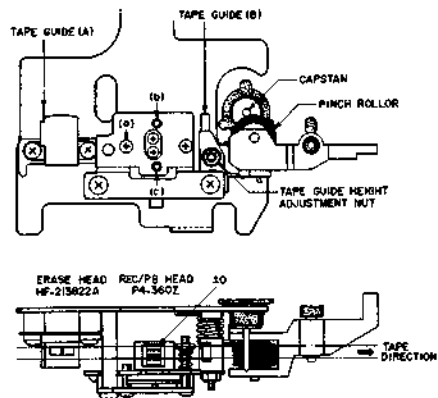

Fig. 9 Head Adjustment
(Refer to Figs. 9, 10)
- 2) At playback mode, using the Tape guide (A) shown in Fig. 9 as standard for height, adjust tape guide (B) height with tape guide height adjustment nut so that the tape runs smoothly and does not catch on the tape guides.
2. RECORDING/PLAYBACK HEAD HEIGHT ADJUSTMENT (Refer to Figs. 9, 10)
- 2) As shown in Fig. 9, adjust head height with screws (a), (b) and (c) until the upper edge of the tape is the same height as the upper edge of the left channel REC/PB head core.
3. RECORDING/PLAYBACK HEAD AZIMUTH ALIGNMENT ADJUSTMENT (Refer to Fig. 9)
- 1) Playback a 10 kHz pre-recorded cassette azimuth alignment test tape and adjust screw (a) shown in Fig. 9 to obtain maximum output on both channels.